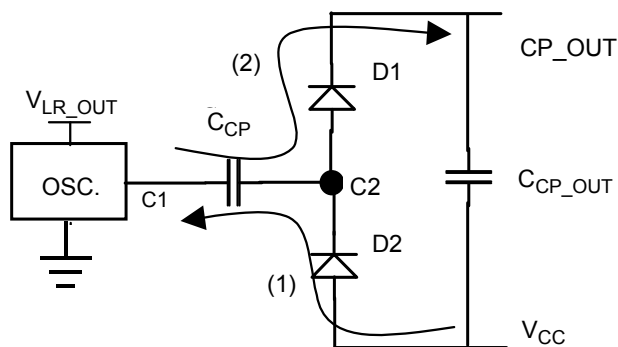

Figure 8. Charge Pump Basic Circuit
The charge pump generates the high-side driver supply voltage (CP\_OUT), buffered at  $C_{CP\_OUT}$ . Figure 8 shows the charge pump basic circuit without load.
When the oscillator is in low state [(1) in Figure 8],  $C_{CP}$  is charged through D2 until its voltage reaches  $V_{CC} - V_{D2}$ . When the oscillator is in high state (2),  $C_{CP}$  is discharged through D1 in  $C_{CP\_OUT}$ , and final voltage of the charge pump,  $V_{CP\_OUT}$ , is  $V_{CC} + V_{LR\_OUT} - 2V_D$ . The frequency of the 33883 oscillator is about 330 kHz.